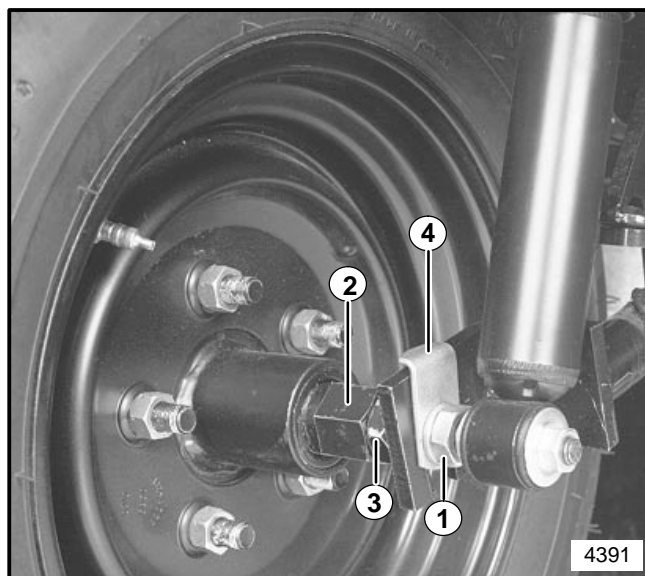

FIGURE 23
9. Install hub onto axle. Tighten the bearing adjustment nut 7 to 13 ft.-lbs. (10 to 17 N·m) torque while rotating the hub by hand. Back off nut 1/6 turn. This will allow the hub to rotate freely without drag. A slight amount of end play is allowed. Refer to Figure 23 for part locations.
10. Tighten bearing jam nut. See Figure 23.